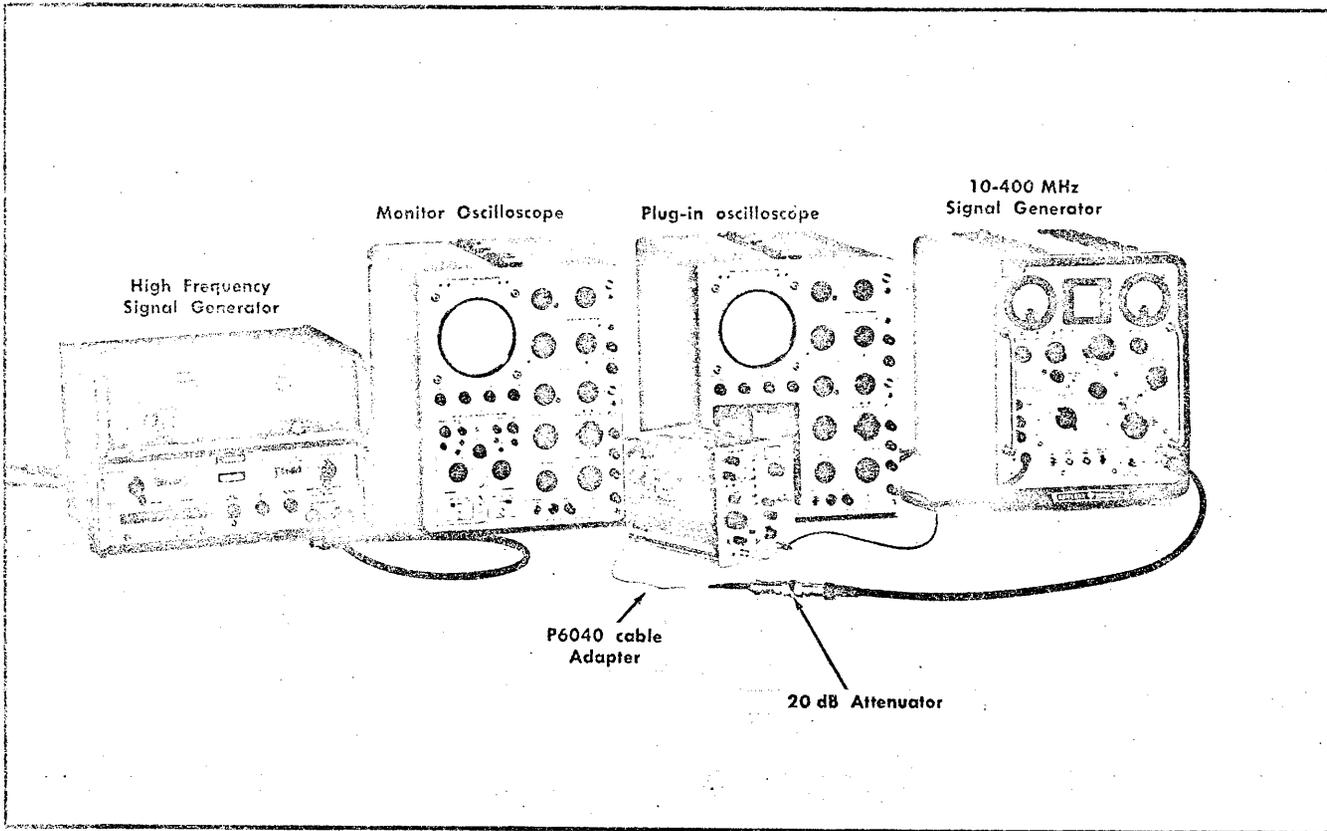

Fig. 6-25. Equipment setup to adjust the RF Mixer, the wide band IF amplifier and check response flatness (steps 16 and 17).
a. Equipment setup is shown in Fig. 6-25.
- a. Equipment setup is shown in Fig. 6-25.